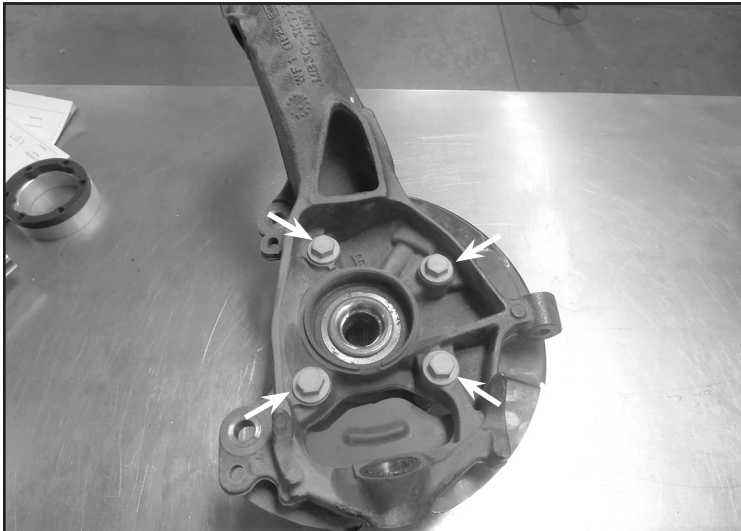

FIGURE 51 - STEP 39
39. Locate both factory knuckles. Disassemble the hubs from the knuckle by removing the (4) bolts on each knuckle assembly. **SEE FIGURE 51**